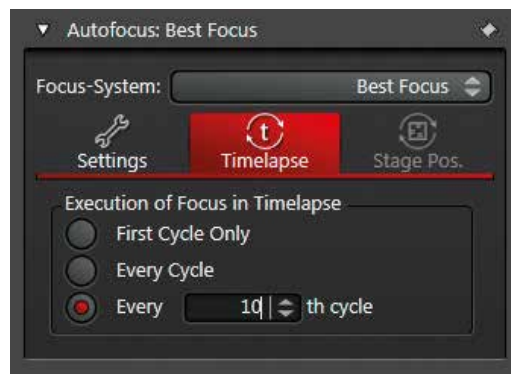

Figure 21 Setting the execution frequency of the Best Focus job.
4. Define these settings inside the **Best Focus** dialog: **Focusdrive** (z galvo or z wide), **Focus Modes**, **Analyze Type**, **Speed/Accuracy**, and **No. of Steps**. Further options are available for time series upon a click on the **Timelapse** button (Figure 21).
The execution frequency of a Best Focus job during a time-lapse experiment (xyt, xyzt) can be defined by clicking the **Timelapse** button (Figure 21). A cycle represents one frame in a xyt experiment or one z stack in a xyzt experiment. The **Timelapse** button is active after a t series has been defined.